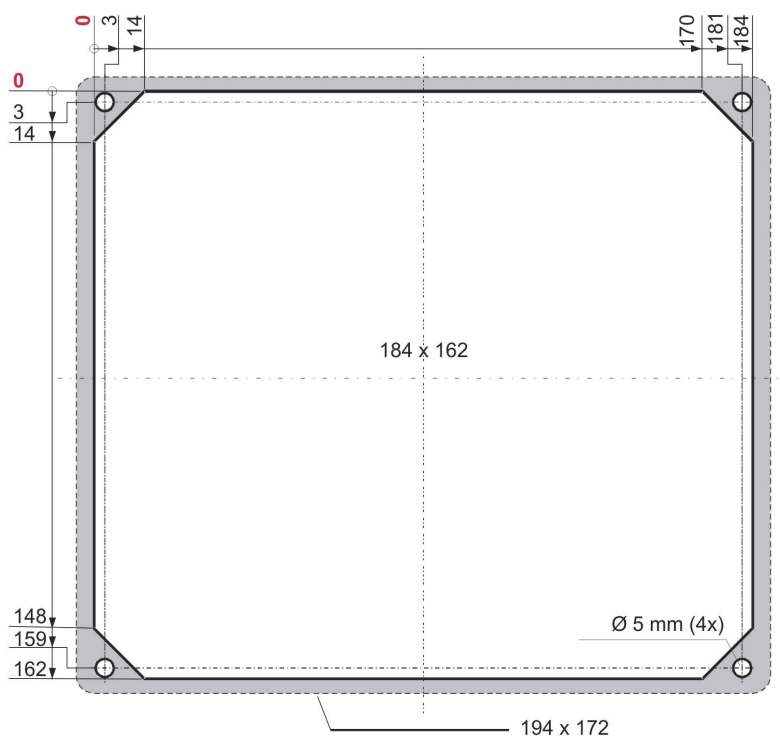

Fig. 11: Mounting cutout
- The device is fastened with four stud bolts (Fig. 11). Four bores with a diameter of 5 mm are provided for the stud bolts.